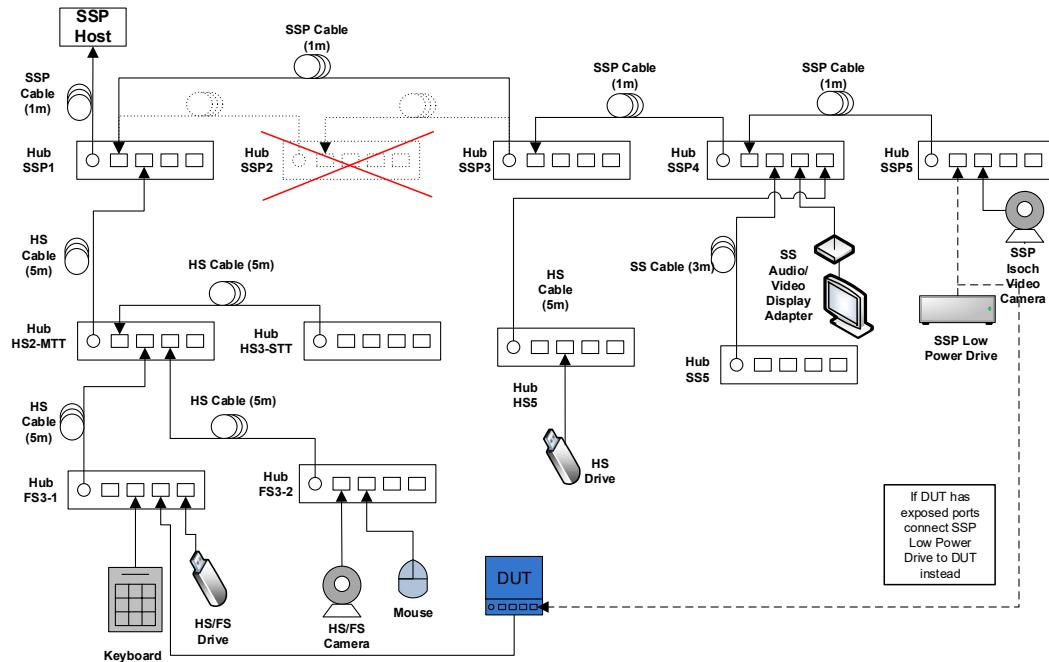
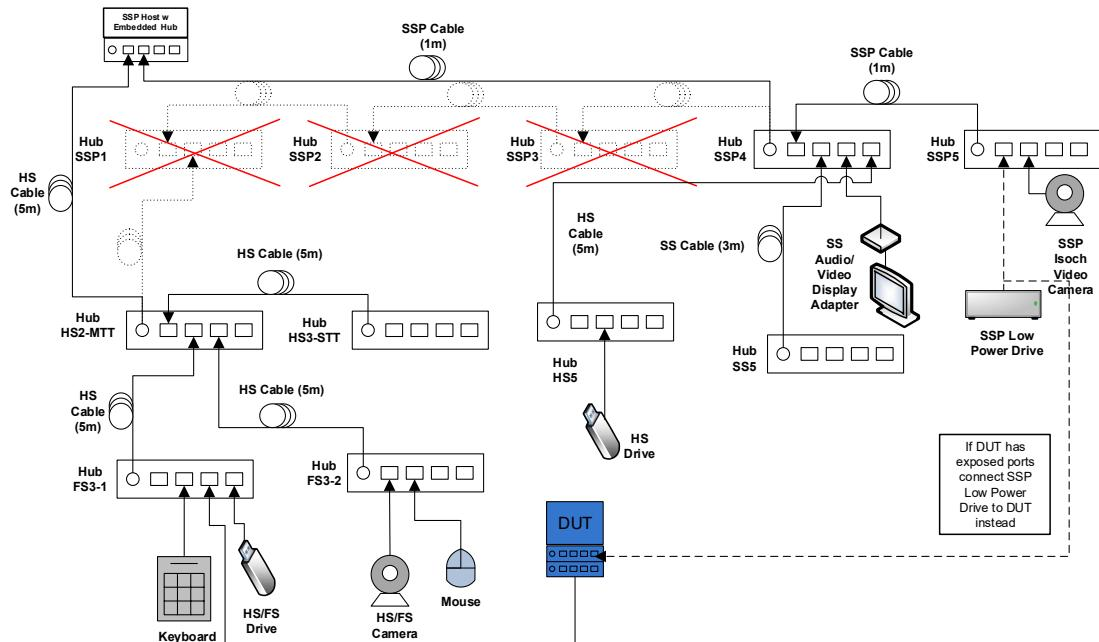

Figure 6-13: Interop Tree with Compound Device – Topology Change 2
Figure 6-16: Interop Tree with Compound Device (Dual-Hub) - Embedded Hub - Topology Change 2
- While operating the devices, attach the Device Under Test to port 3 on Hub FS3-1 as shown below in Figure 6-13 through Figure 6-16.